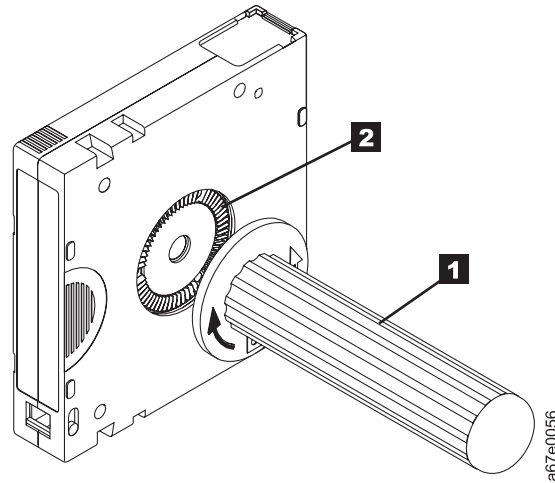

Figure 9-10. Rewinding the tape into the cartridge
5. To rewind the tape, insert the cartridge manual rewind tool (**1** in Figure 9-10) into the cartridge's hub (**2**) and turn it clockwise until the tape becomes taut.